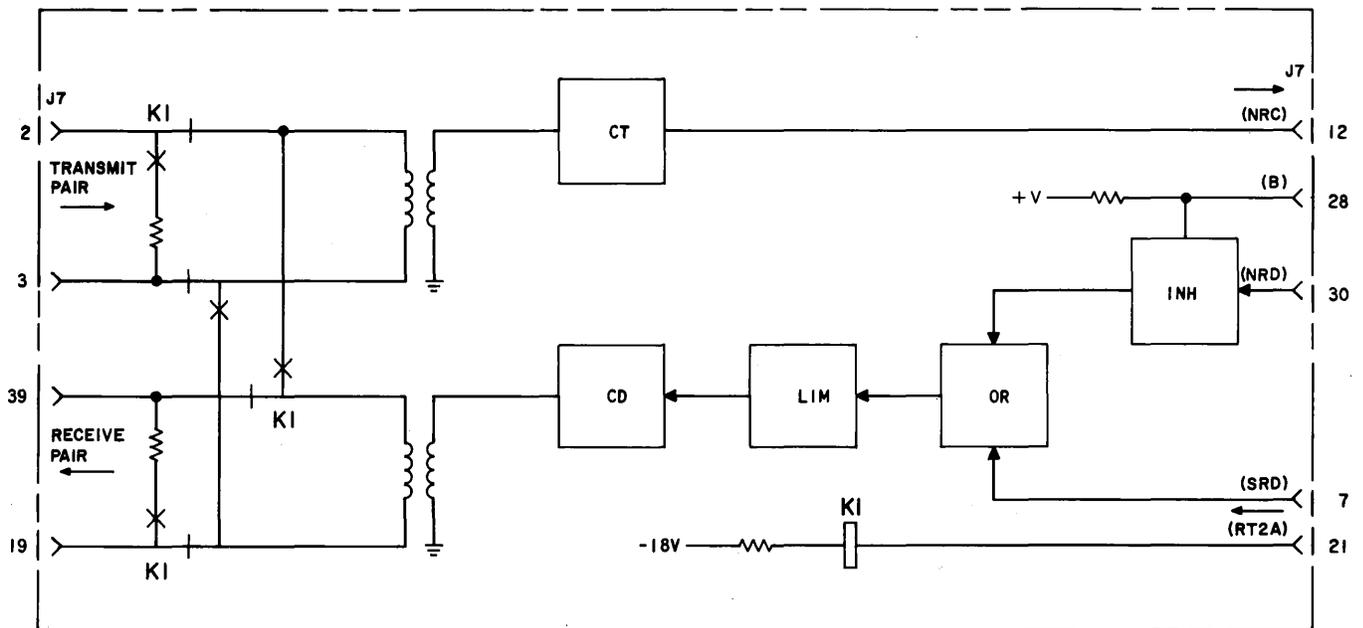

Fig. 11—Balanced Customer Interface—Block Diagram
**3.50** The balanced customer interface is provided in sets designed for special uses where data between the customer and the data set is over balanced lines. Refer to Fig. 11.